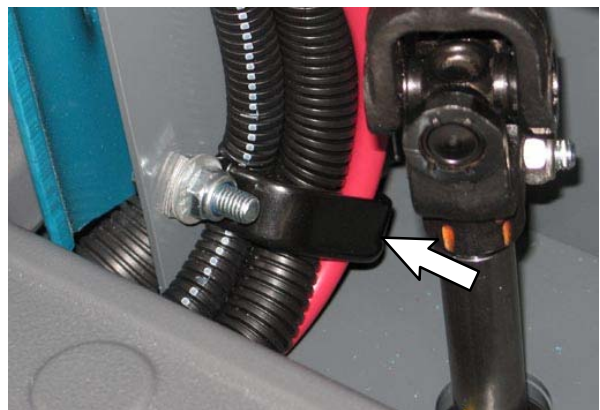

FIG. 65
31. Reinstall the cable clamps. (Fig. 65)